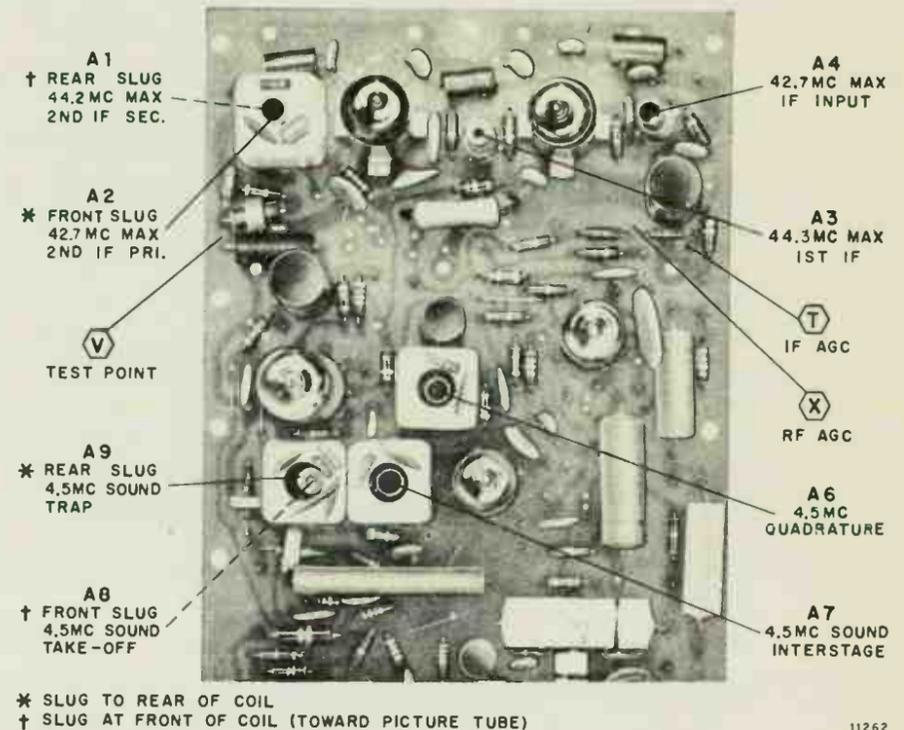

Figure 40. Rear View of Etched Circuit Board A7265-1 (Chassis 15A2, 15A2C, 15B2, 15B3 and 15UA2) Showing Test Point Locations and IF Alignment Data.
- Connect negative of 3 volt bias supply through 10K resistor to test point "T" (IF AGC) and "X" (RF AGC), see figure 40 or 41. Connect positive to chassis.
2. Select the strongest TV station received. Adjust set for normal operation. See figure 40 or 41 for adjustment
- Connect negative of 3.0 volt bias supply to test point "X" (RF AGC), positive to chassis. See figures 40 or 41.
- Connect negative of 3 volt bias supply to test point "X" RF AGC buss, positive to chassis. See figure 40.